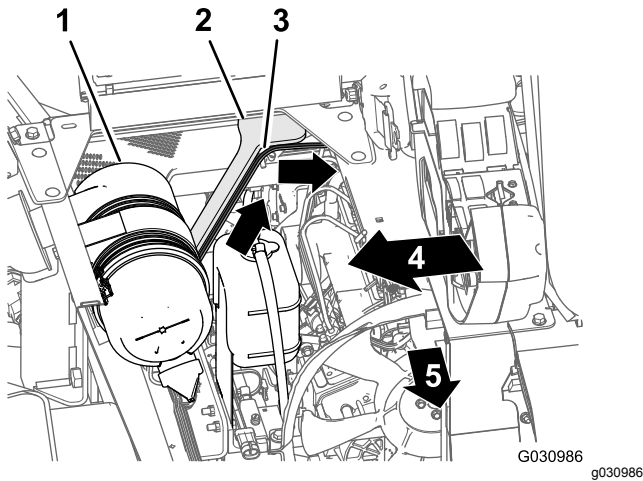

Figure 114
1. Route the 108 cm (42-1/2 inches) branch of the wire harness up and into the rear part of the engine compartment, along the right support for the engine shroud—forward of the duct that connects the air filter and the engine (Figure 114).